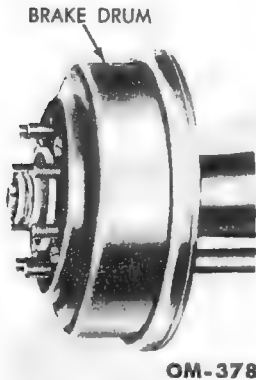

Fig. 28—Wheel Removed to Expose Brake Assembly
a. Removal. Jack up the rear end of the tractor, and remove the rear wheels. Remove the four screws from the brake drum, and slide the drum off the shaft (fig. 28).